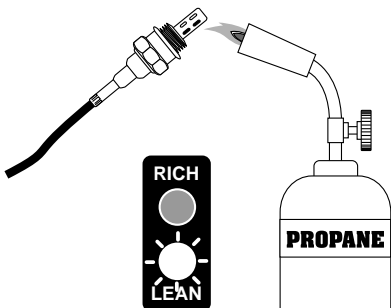

Fig. 1
- Thoroughly heat sensor tip until tip is as hot as possible, but not "glowing". See Fig. 1.
- Move flame so oxygen can reach sensor tip. (Keep sensor tip hot with flame.) See Fig. 1.